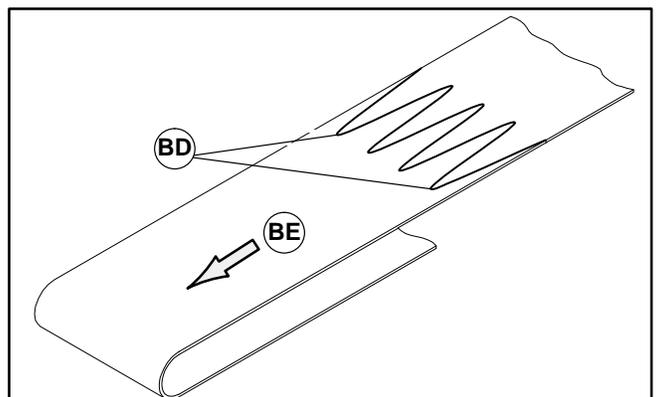
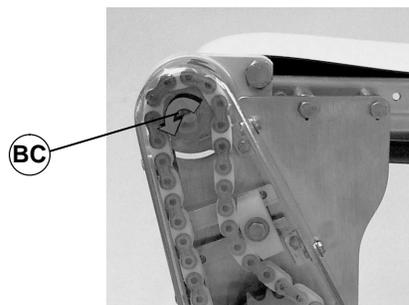

Figure 29
Figure 32
1. Orient conveyor belt so the splice leading fingers (BD of Figure 29) point in the direction of belt travel (BE).
**IMPORTANT:** On a flat belt conveyor, the wiper is installed on discharge end. Belt travel direction is identified by an arrow decal on the drive cover (BC of Figure 32).
- Orient conveyor belt so that the splice leading fingers (BD of Figure 29) point in the direction of belt travel (BE) as identified by the label (BC of Figure 32).